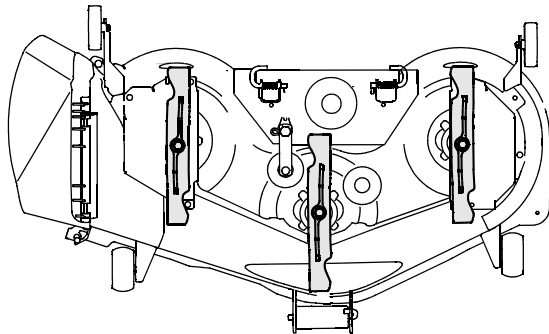

Figure 48
2. Position the mower blades so the ends of each outer blade point toward the front and the rear of the tractor (See Figure 48).